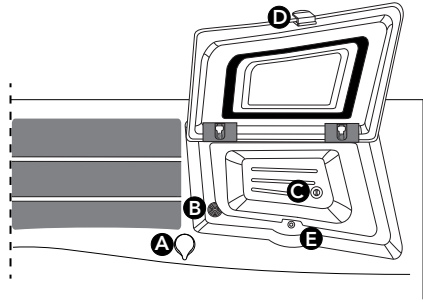
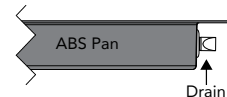

Figure 12.1c
Figure 12.1f
From the Settings Menu (Figure 12.1a) tap **SunCooler™...** to enter the SunCooler Drain Menu, Figure 12.1b. When water accumulates within the SunCooler bins, draining of the water can be done in one of two ways, internally into the hot tub (Figure 12.1d) or externally out of the hot tub (Figure 12.1f). There are also SunCooler perimeter drains, Figure 12.1c. When water accumulates, in the perimeter, draining is continuous any time pump 1 is running.
4. Locate the air control that works with the bin drain, Figure 12.1c, and close it by turning it counterclockwise.
4. Locate the drain plug on the ABS pan of the hot tub, Figure 12.1f.
5. Turn the thumb screw counterclockwise to remove, Figure 12.1f. Place the screw in a safe location to prevent from losing it.